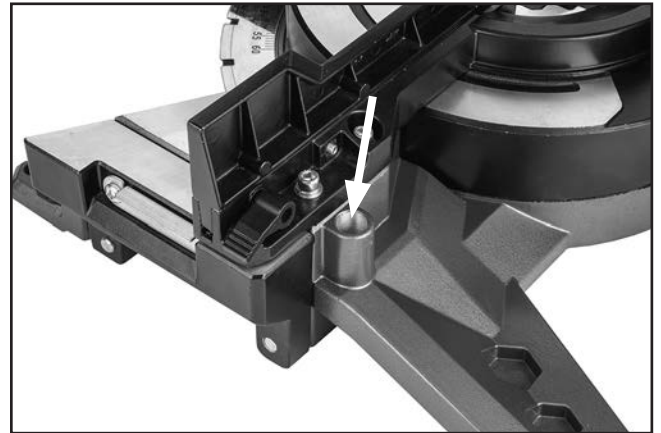

Figure 41. Hold-down clamp mount.
1. Insert clamp base into desired mounting hole on either side of blade (see **Figure 41**).